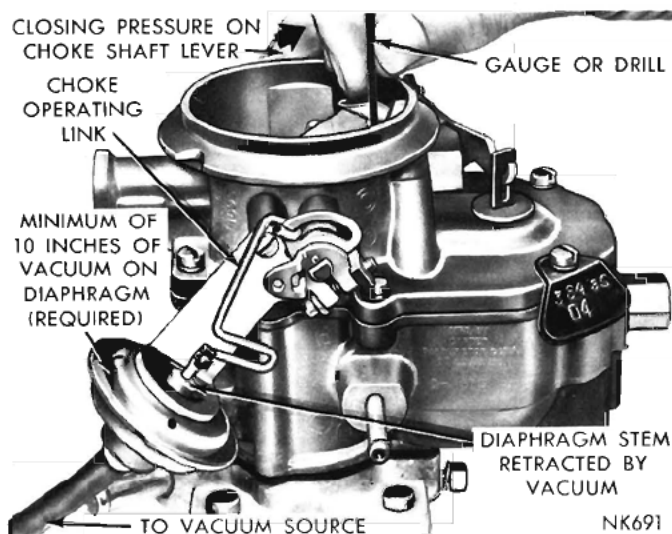

Fig. 14—Measuring the Choke Vacuum Kick Setting
(1) With the engine **Not** running, open the throttle valves far enough to allow the choke valve to be moved to the closed position.
(2) Disconnect the vacuum hose from the diaphragm and connect the hose from the vacuum supply as shown in (Fig. 14). (A minimum of 10 inches of mercury (HG) will be required.)
(7) Install the choke operating link and recheck the choke valve opening, using a gauge or drill. Refer to (Fig. 14).
(8) Reinstall the vacuum hose to the diaphragm